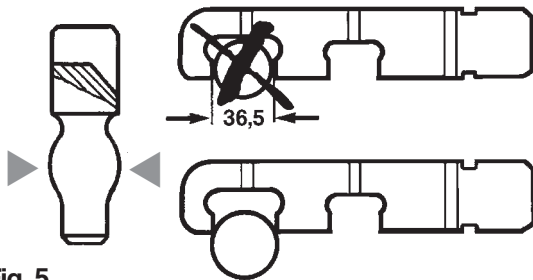

Fig. 5
- The fastening of the hitch to a hollow profile with inserted fastening bolts **is not permitted** (see fig. 5).
Check wear on the coupling pin using a ROCKINGER reference gauge (order no. 57026) (see Fig. 5).